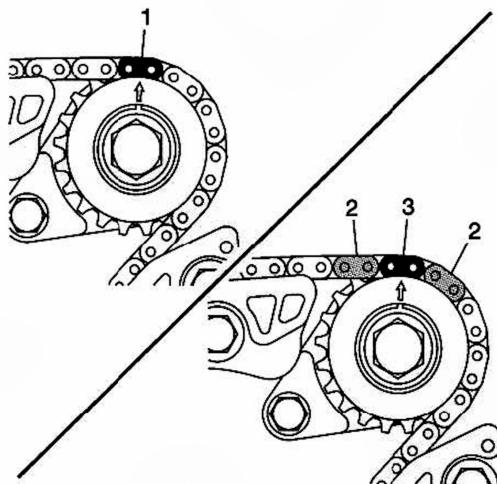

Figure 1. Balance Shaft Chain Designs
There are two possible chain configurations for these engines. Both configurations use a unique chain link to line up with the intake side balance shaft sprocket timing mark. The first design uses a unique link color (1). The second design uses a black anodized link (3) with uniquely colored links on either side (2) as shown in Figure 1.